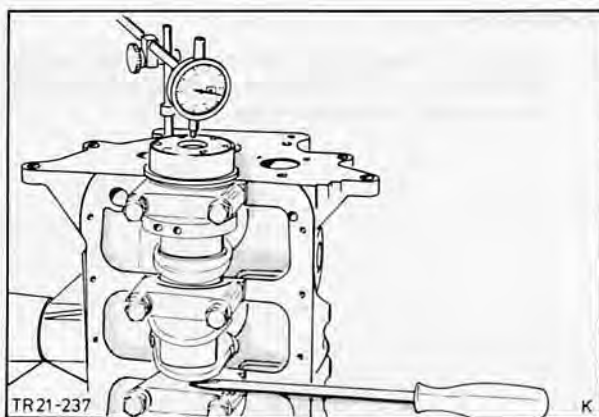

Fig. 56. Check end-float of crankshaft
41. Check end-float of the crankshaft and camshaft using a dial indicator, Fig. 56. (See Technical Data). If end-float is excessive, fit thicker half thrust washers or a new camshaft thrustplate.